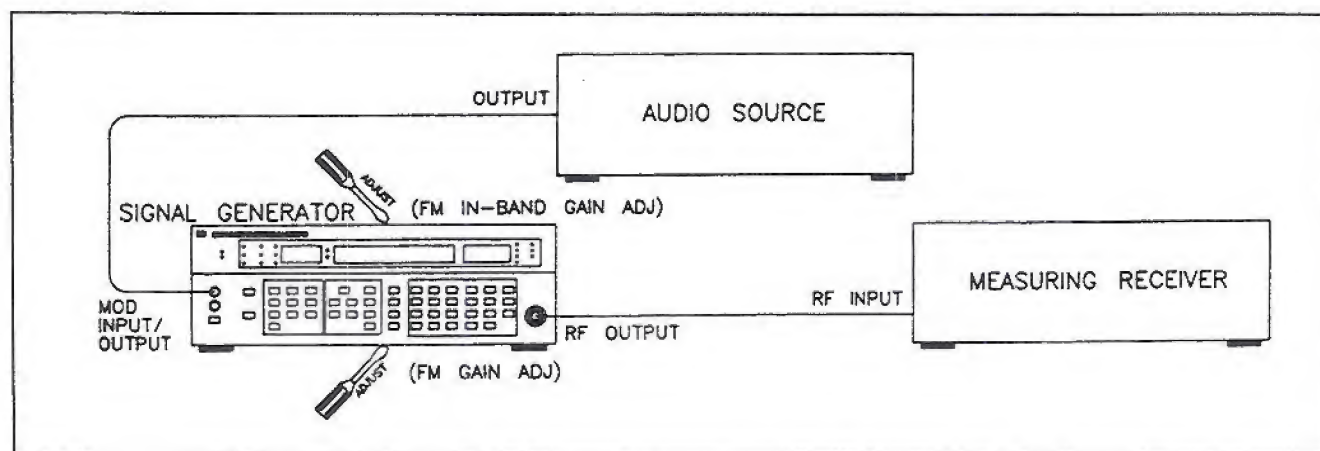

Figure 5-35. FM In-band Gain Adjustment Setup
4. Connect the Signal Generator RF OUTPUT to the measuring receiver INPUT, and the Signal Generator MOD INPUT/OUTPUT to the audio source OUTPUT as shown in Figure 5-35. The Signal Generator LO EXT and HI EXT LED's should be out. Also insure that the Signal Generator INT 1 kHz modulation source is turned off.